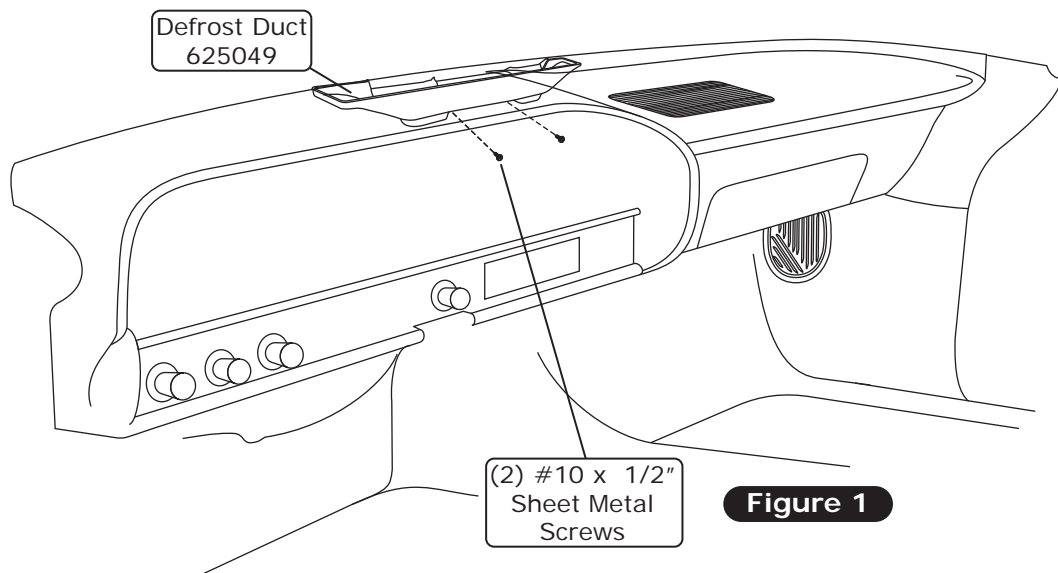

Figure 1
1. Place the defrost duct under the dash, and align it with the OEM defrost opening. Drill (2) 1/8" holes in the cowl, using the defrost duct hole as a template. Secure using (2) #10 x 1/2" sheet metal screws as shown in Figure 1, below.